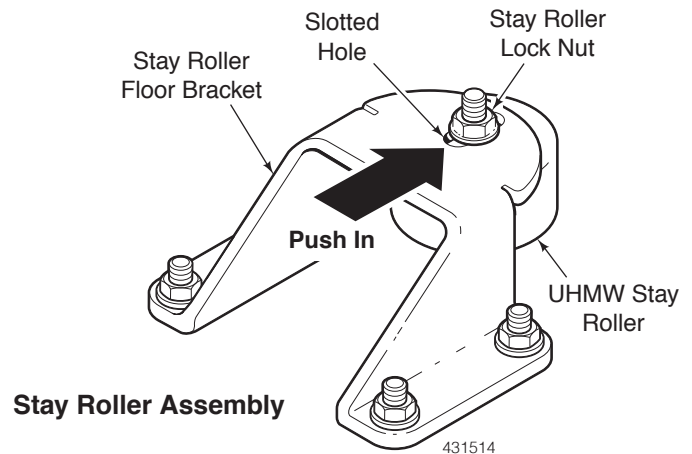

Figure 15
3. To adjust the gasket compression along the side frames, loosen the Lock Nut securing the UHMW Stay Roller to the Floor Bracket. Move the Stay Roller in the slotted hole until proper gasket compression is achieved. Tighten the Lock Nut to secure the Roller in position. On a Single Slide door, adjust the trailing edge first, then the leading edge. See Figure 15.